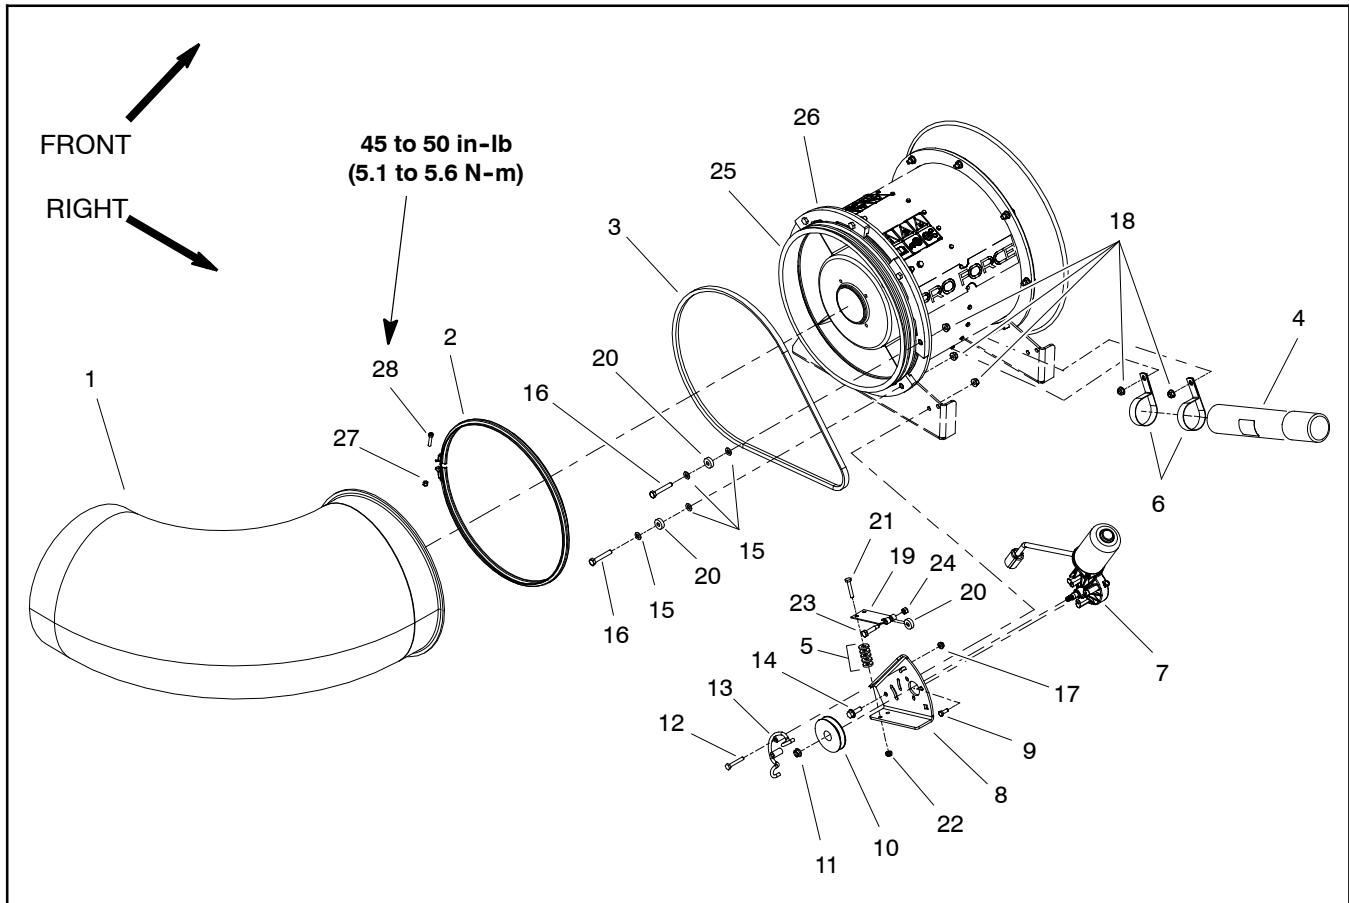
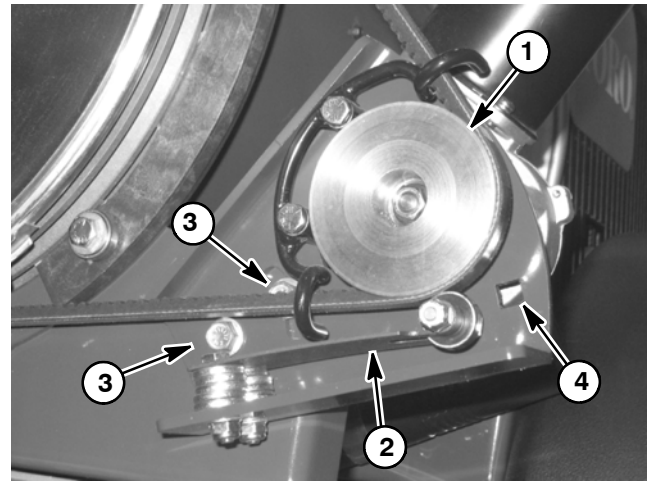

Figure 9
Figure 10
Removal (Fig. 9)
6. Loosen two (2) flange head screws (item 14) and flange nuts that secure nozzle motor bracket to outer housing (Fig. 10). Rotate bracket and nozzle motor to loosen v-belt.
7. Loosen cap screws and flange nuts that secure belt guard (item 13), route v-belt from behind guard and carefully remove belt from machine.
8. If necessary, remove nozzle guides, pulley bearings and nozzle pulley from outer housing using Figures 9 and 12 as guides.
Installation (Fig. 9)
1. If removed, install nozzle pulley, pulley bearings and nozzle guides using Figures 9 and 12 as guides.
2. Place v-belt in nozzle pulley, route behind belt guard (item 13) and install belt on motor pulley.
3. With a 3/8 in. drive torque wrench, pivot the motor bracket from **200 to 230 in-lb (23 to 25 N-m)** to set v-belt tension (Fig. 10). **Do not over tension belt.** Hold bracket with the torque wrench and tighten two (2) flange head screws and flange nuts to secure belt adjustment and nozzle motor bracket.